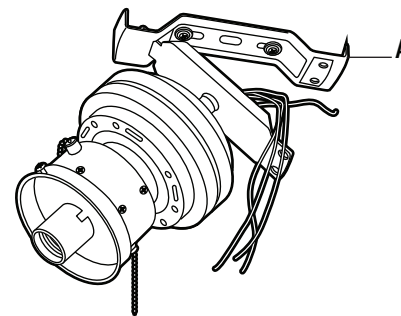

Figure 5
- Before making the electrical connections, use the square hole at one end of the supporting bar (A) to hang the fan motor (Figure 5).